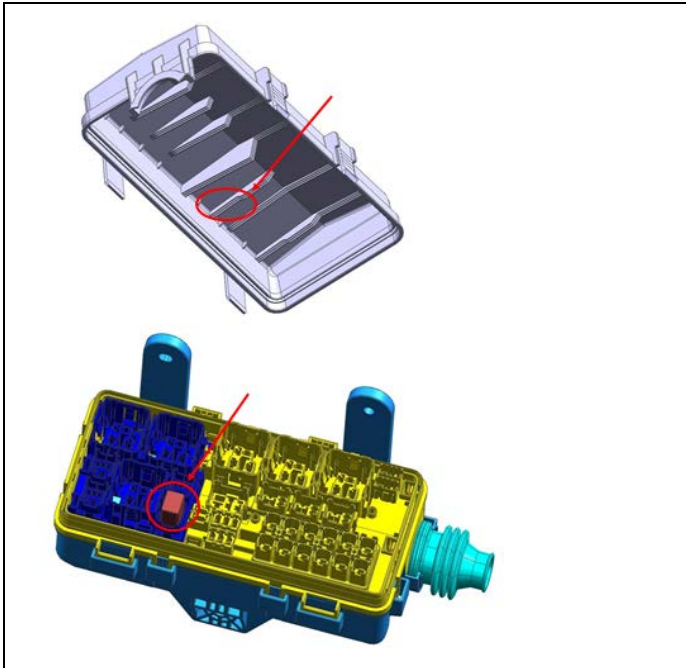

Figure 1
4. Locate the relay box cover rib as shown in figure 1.